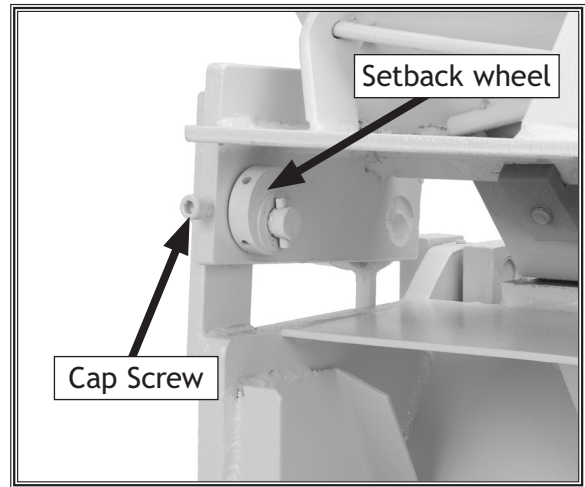

Figure 10. Cap screw and setback wheel.
3. Rotate both setback wheels evenly (**Figure 10**) to move the front edge of the fingers toward or away from the edge of the clamp block.